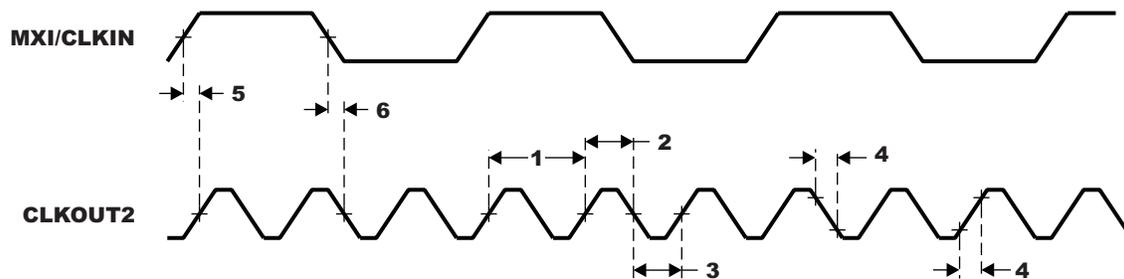

Figure 5-10. CLKOUT2 Timing
Table 5-8. Switching Characteristics Over Recommended Operating Conditions for CLKOUT2^{(1) (2)} (see Figure 5-10)